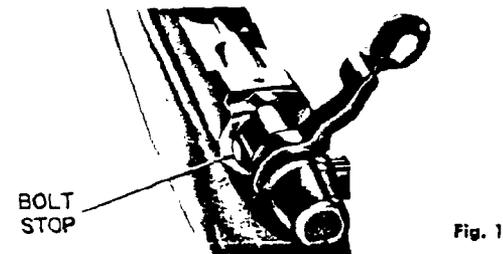

Fig. 1
**TO REMOVE BOLT** — Push safety forward to unlock bolt and raise bolt handle. Pull bolt rearward. Press down on front of bolt stop. Bolt stop is located in left rear of bolt channel in receiver (Fig. 1). Use small flat key or screw driver. Allow bolt to slide back and disassemble as bolt stop is passed; lift bolt from gun.
**CLEANING AND CARE** — Caution: Make sure rifle is empty of live ammunition (before cleaning). To make cleaning of barrel or bolt easier remove bolt from rifle. (See Fig. 1). Use a good petroleum solvent for cleaning of parts.